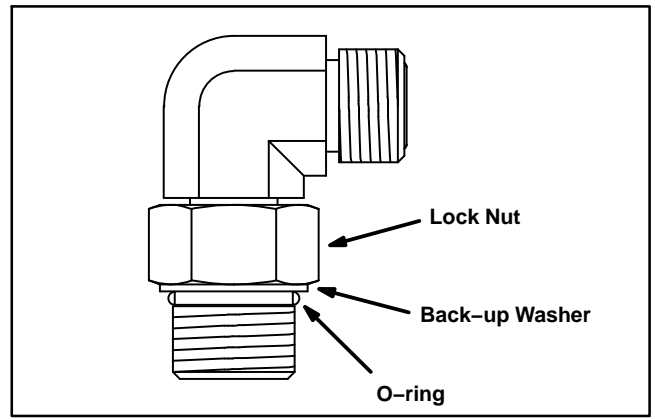

Figure 6
**Adjustable Fitting (Fig. 6)**